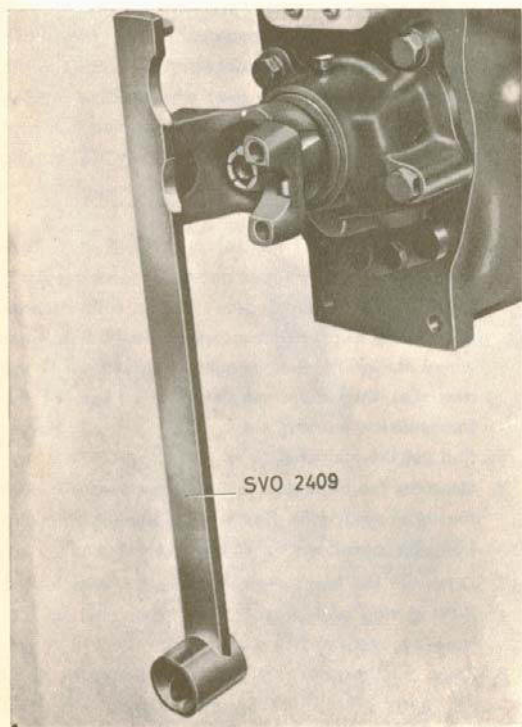
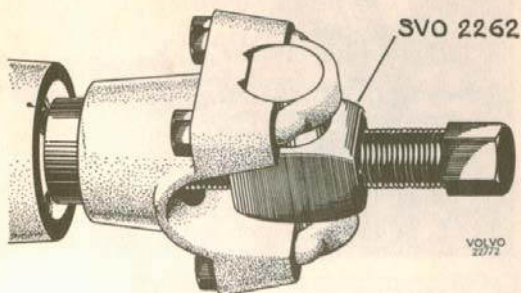

Fig. 3-11. Counterhold for coupling
Fig. 3-12. Removing coupling
2. Unscrew the nut for the coupling (19, illustration III-A). Use key SVO 2409 as counterhold, see Fig. 3-11. Pull off the coupling with puller SVO 2262, see Fig. 3-12.